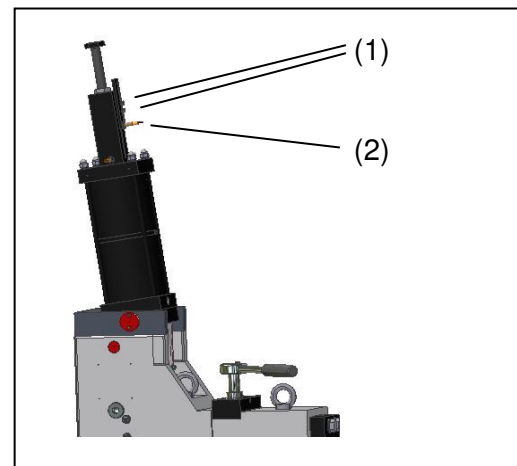

Fig. 13 Adjust end position switch
- ▶ Shift the end position switch (**Fig. 13**, Pos. 2) to the top. (LED control display of end position switch is off).